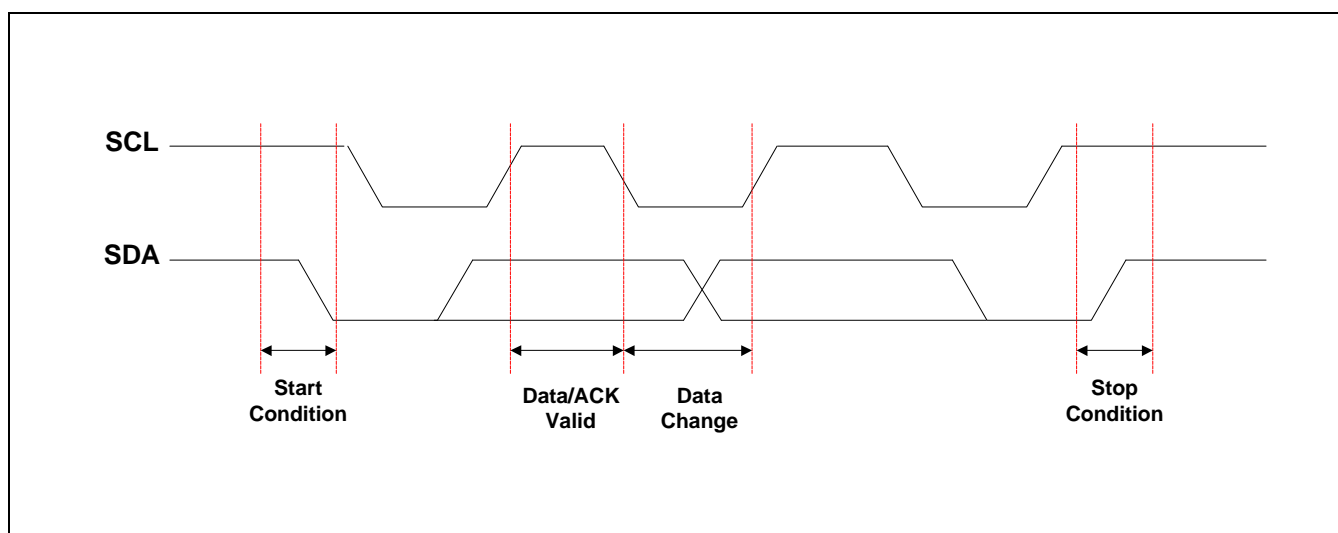

Figure 3-9. Data Transmission Sequence
- **Stop condition:** A stop condition is initiated by a Low-to-High transition of the SDA line while SCL remains in High level. All bus operations must be completed by a stop condition (see Figure 3-9).